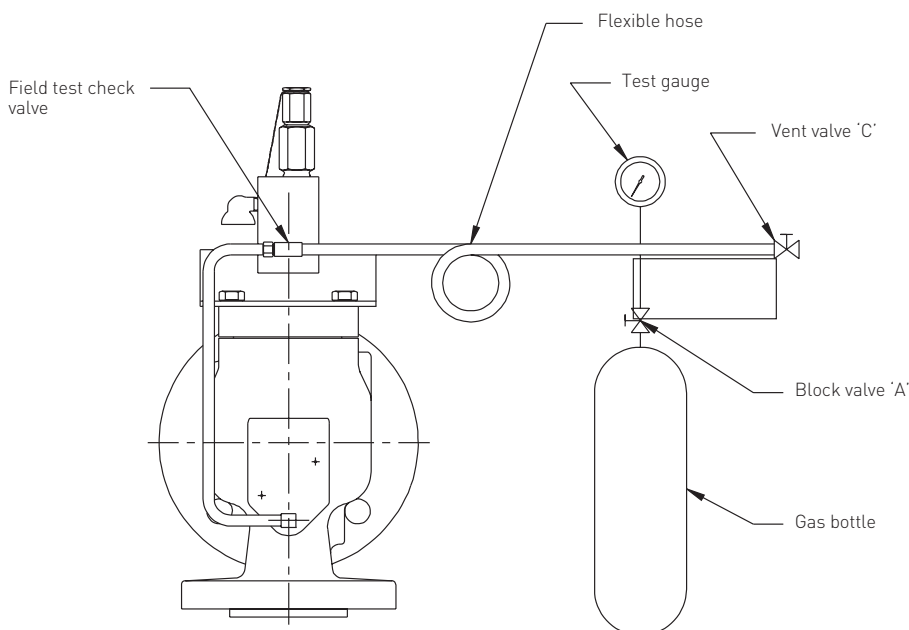

FIGURE 5
3.1.2 For pilots equipped with a field test assembly (Figure 5) remove the assembly from the pilot body (Figure 5). Unscrew the bushing from the assembly and remove the spring and shuttle.